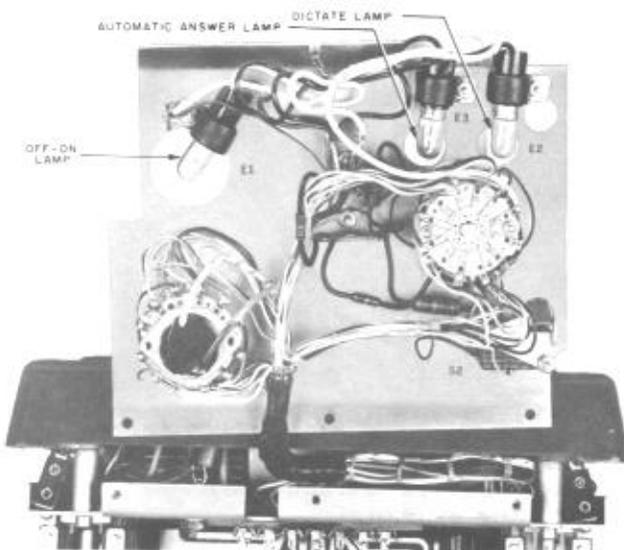

Fig. 8 - Control Panel Indicating Lamps
- 1.12 The control panel indicating lamps are shown in Fig. 8.